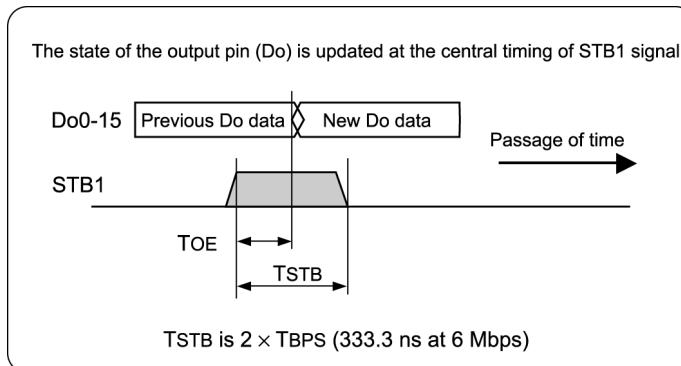

Fig. 4.3 Update Timing of Output Pin (Do)
Each time the MKY37 inputs the command packet (CP) matching the SA from the center IC correctly, it outputs data in the CP to the output pin (Do) of the MKY37. The state of the output pin (Do) is updated at the central timing of the pulse-like strobe signal from the STB1 (STroBe-1) pin (pin 40) (Fig. 4.3). The function of this STB1 pin can be used to notify a circuit connected to the output pin (Do) that the output state is updated.